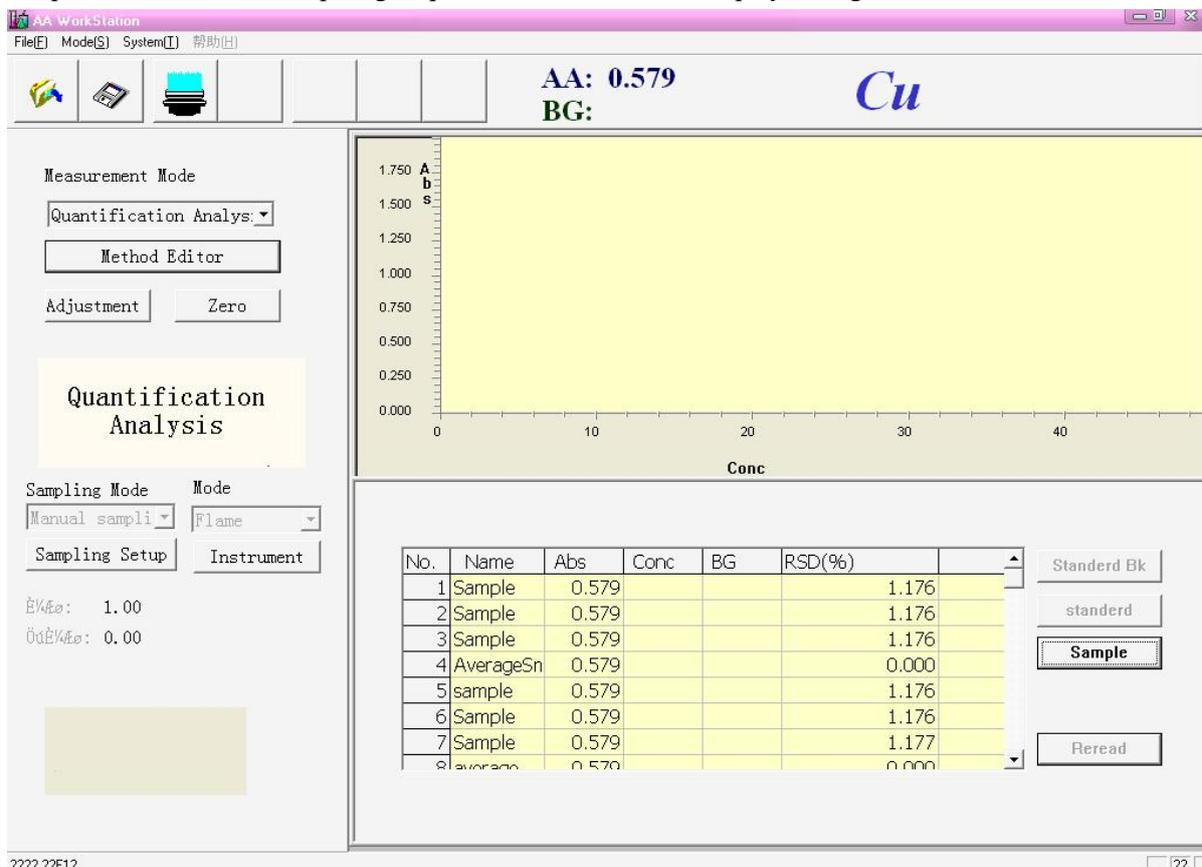

Figure 5-40b
2. Spurt and absorb the sample again,press **【Reread】** button,display the figure 5-40b
to change the sample's name of No.5 in the figure 5-40b,please click on the name twice ,display the figure Figure 5-41a,5-41b